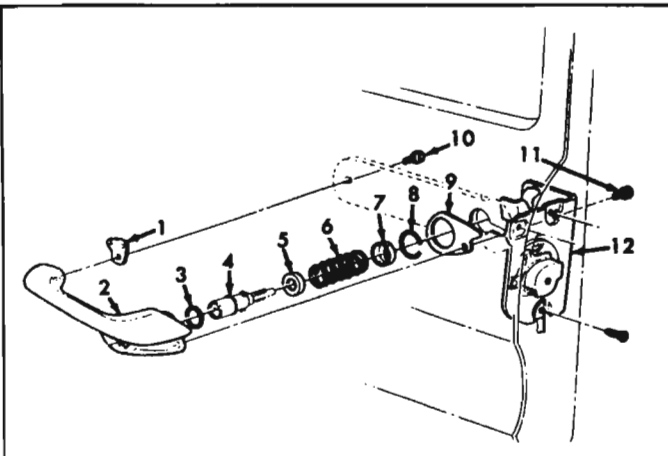

Fig. 10-53a—Door Lock and Handle Assembly
3. Remove screw (11, fig. 10-53a) from edge of door and screw (10, fig. 10-53a) from inside of door.
(Refer to Figure 10-53a.)
4. Remove the handle sealing ring (3) (fig. 10-53a).
2. Temporarily reinstall door remote control handle to shaft and position handle forward, placing mechanism into locked position, which will permit the removal of remote control unit mounting attaching screws. Remove three screws which attach lock unit (fig. 10-53a) to edge of door. Loosen two guide channel mounting screws (fig. 10-46a) and pull channel toward front of door. Push lock rotor housing into door. Lower lock to wide part of door and remove lock by turning lock around glass guide channel.
3. To install mount remote control of lock mechanism to door with three screws ("D", fig. 10-47a). Tighten attaching screws (fig. 10-53a) at door lock unit firmly. Referring to Figure 10-47a, tighten remote control unit to door panel attaching screws after adjusting position of remote control unit as follows: